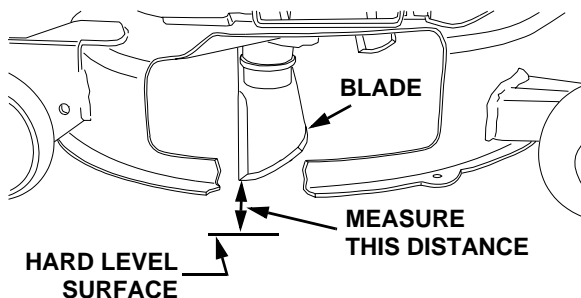

Figure 32
5. Referring to Figure 32, measure and record the distance from the hard, level surface to the outermost cutting edge of the right blade. Repeat this step for the left blade. If the two blade heights are not within 1/16 inch, proceed to steps 6, 7 and 8. If the two blade heights are within 1/16 inch, proceed to **FRONT TO BACK LEVELING ADJUSTMENT**.